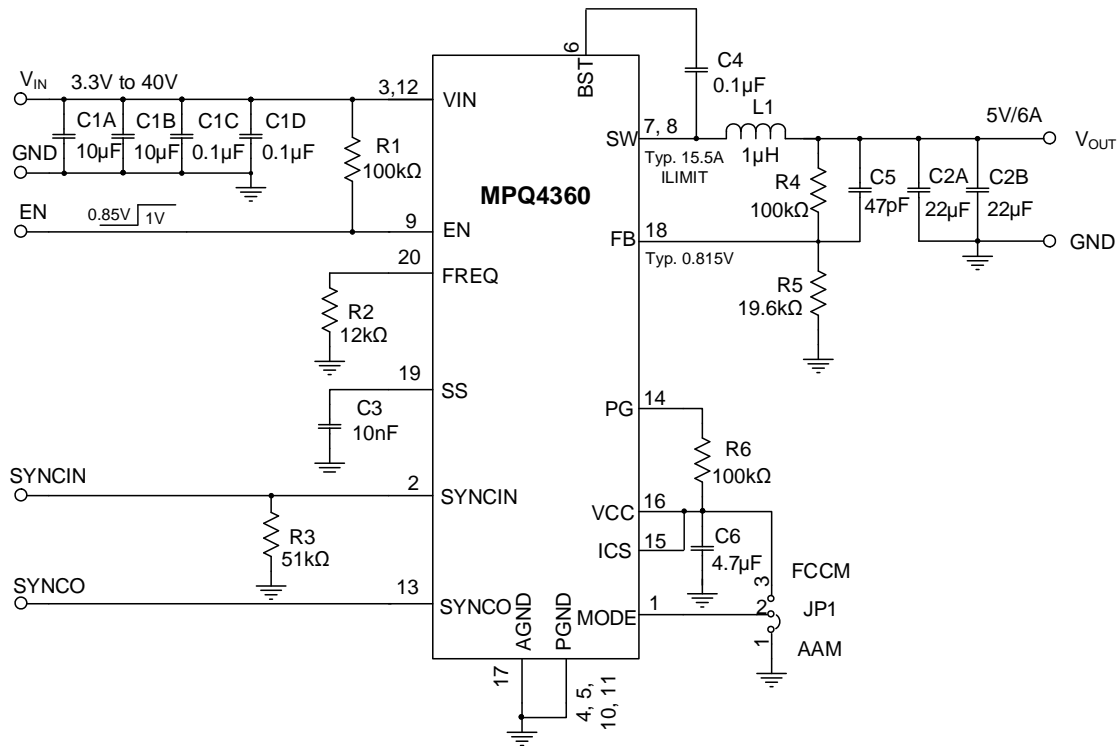

Figure 12: Single-Phase Operation, $V_{OUT} = 5V$, $f_{SW} = 2.2MHz$
10) The recommended PCB layout is based on Figure 12 on page 40.